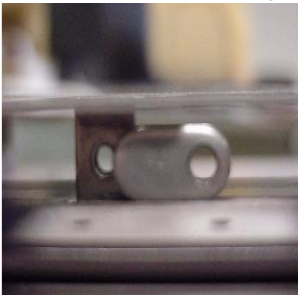

Figure 4:
6. Locate the pre-packaged interface bracket locking tab. Place the locking tab through the front opening in the mounting bracket and lay it on its side as seen in Figure 4.